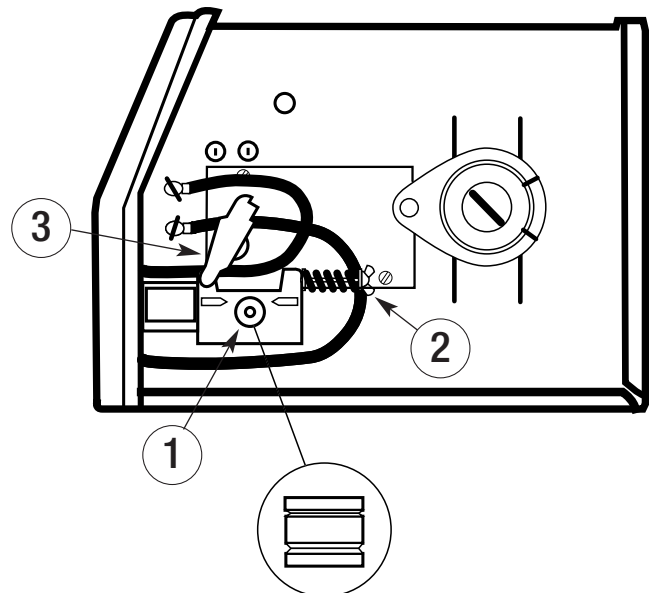

FIGURE D.1
The drive roll, Figure D.1 Item 1, has two grooves; one for .023" – .025" (0.6mm) solid steel electrode and a larger groove for .030" (0.8mm) solid and .035" (0.9mm) flux-cored steel electrode. As shipped, the drive roll is installed in the .023" – .025" (0.6mm) position.
2. Release the spring-loaded idle arm tensioner, Figure D.1 Item 2, and lift the idle roll arm, Figure D.1 Item 3, away from the drive roll.